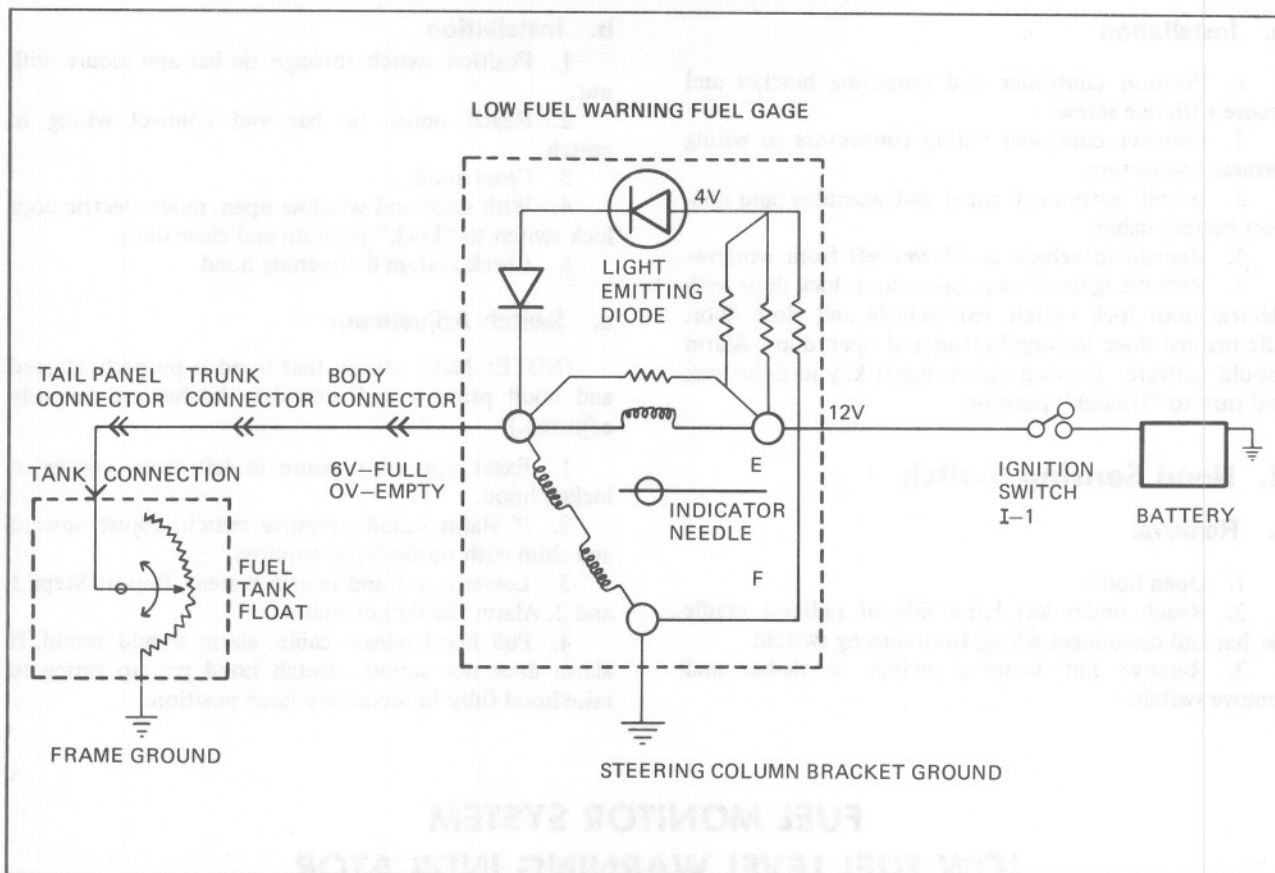

Fig. 15-9 Low Fuel Level Circuit Diagram
2. Pull down on fuel filler door and disconnect tan wire connector from body end panel connector, Fig. 15-9.